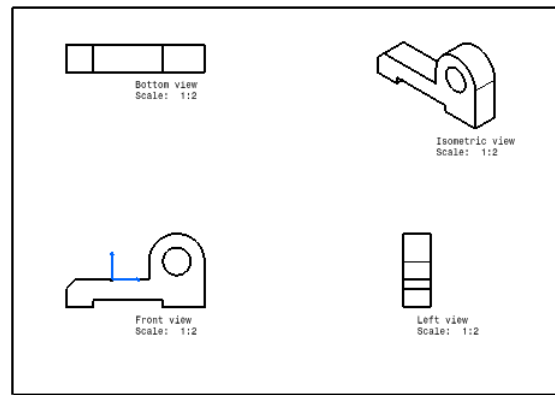

Figure 2-87 Drawing sheet after generating the drawing views
13. Click anywhere on the drawing sheet to generate the isometric view. The drawing sheet after generating the isometric view is shown in Figure 2-87.